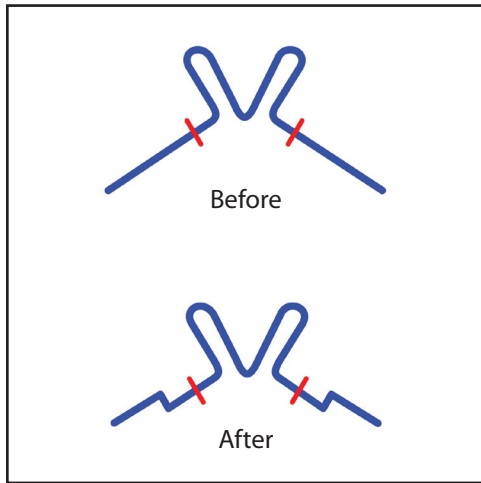

Figure 2
2. Place 2mm high step bend 2mm distal to the molar mark and 2mm mesial to the premolar mark. (Figure 2)